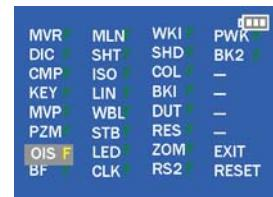

Fig. 3-2
1. After pressing the DISPLAY button, the LCD monitor displays the Flag status screen (Refer to Fig.3-2.)